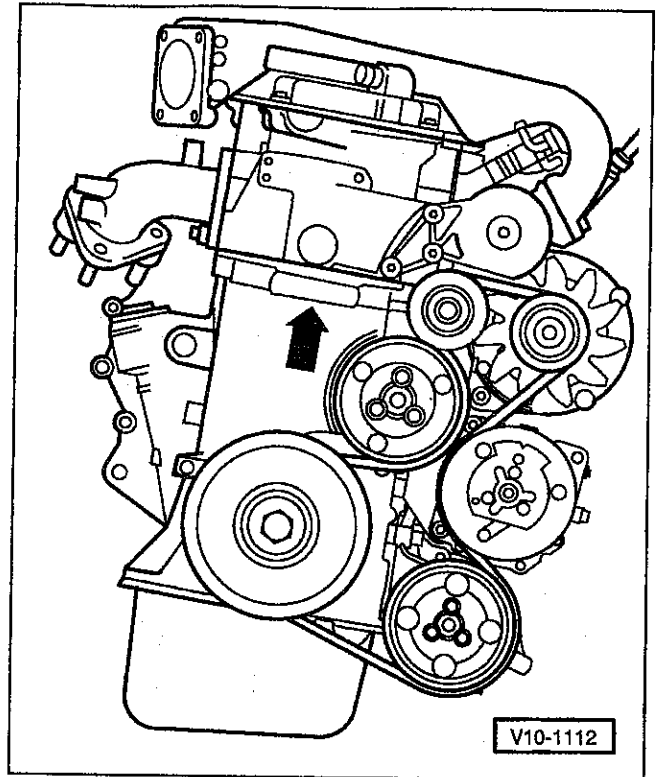

Fig. 4. Engine number location (arrow) on VR6 engine.
- **AAA (VR6) engine** code letters and engine number are located on the cylinder block above the vibration damper. The number is visible by looking through the right suspension strut tower and air cleaner. See Fig. 4.